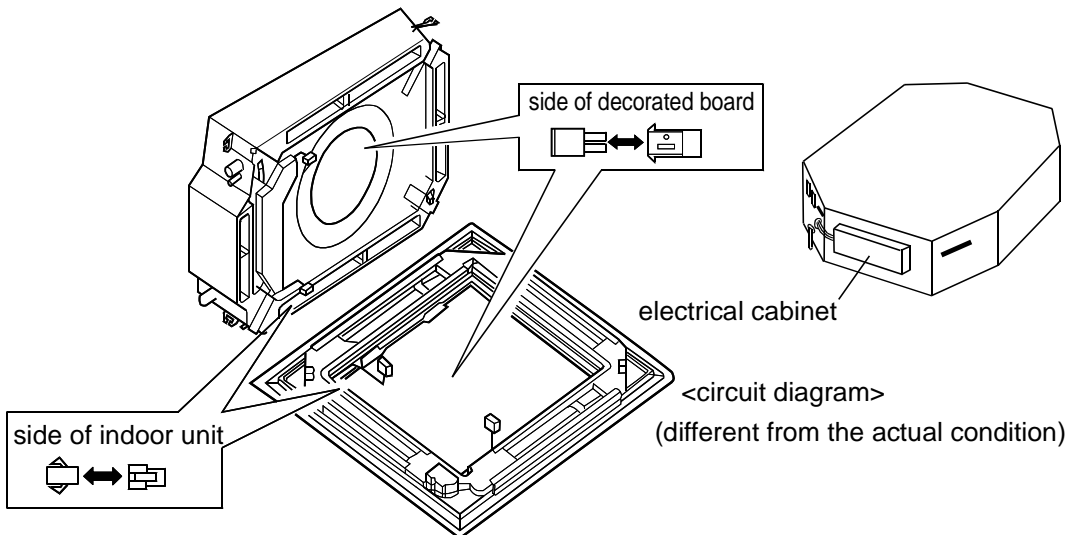

Fig.3
- Connect it to the connector of the wind deflector motor lead on the decorated board (Fig. 3);